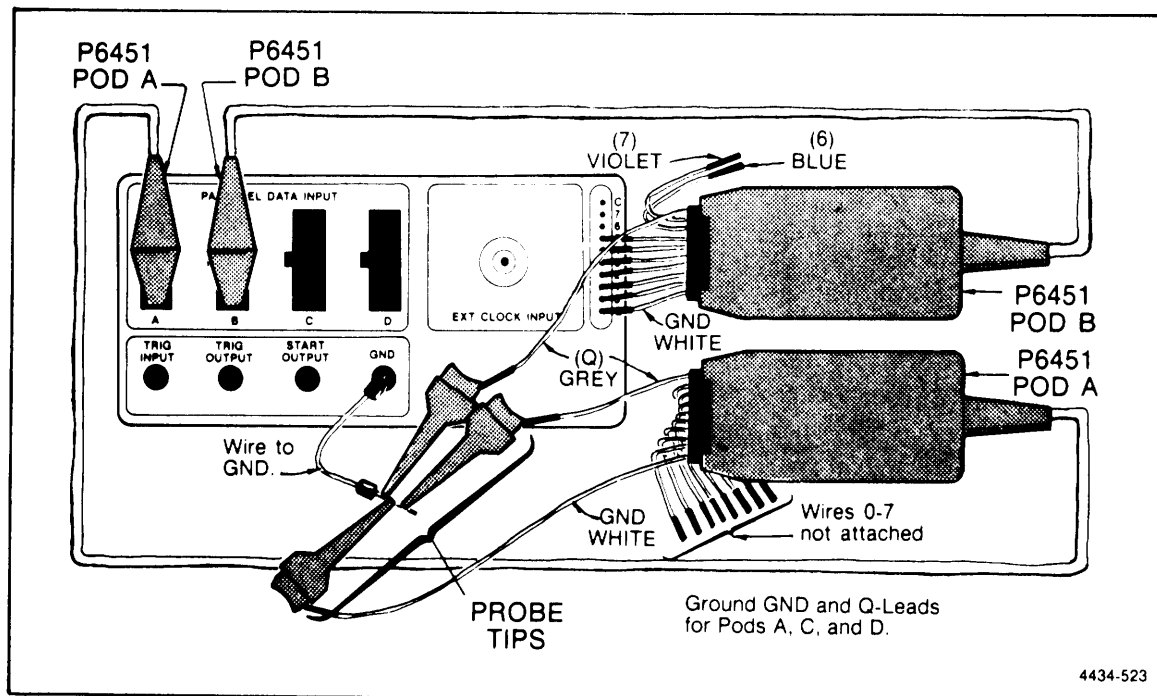

Figure 5-43. 338 Trigger qualifier check setup.
- a. Refer to Figure 5-43. Power up the 338 and connect the data leads of the P6451 Parallel Data probe in Pod B to TEST OUTPUT as follows: